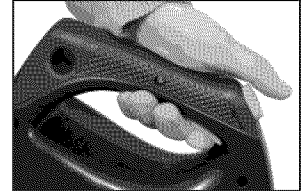

Figure 19 - Release lockout button
4. Squeeze trigger, the trimmer will start immediately. (See Figure 19)